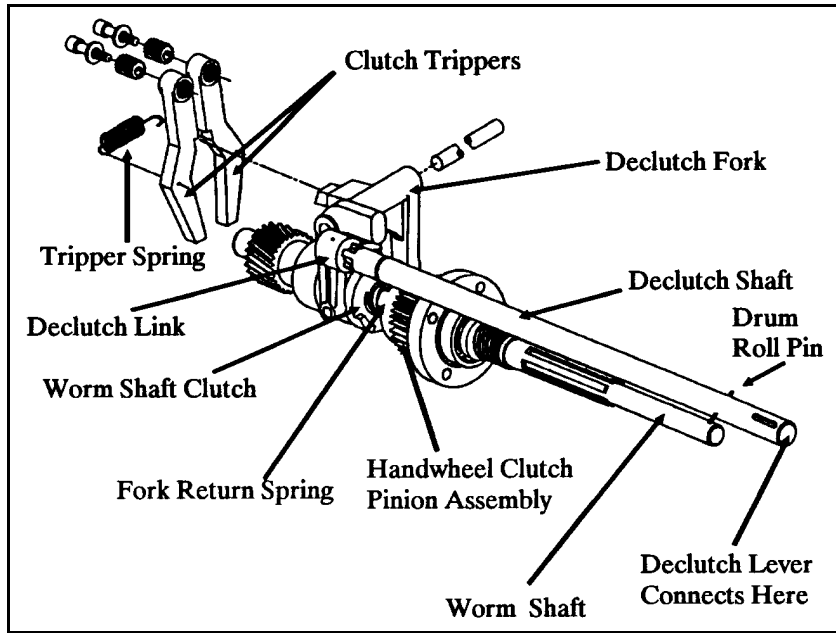

Figure 6-12 Declutch Mechanism
11. Manual Declutch Shaft Removal Refer to Figure 6-12